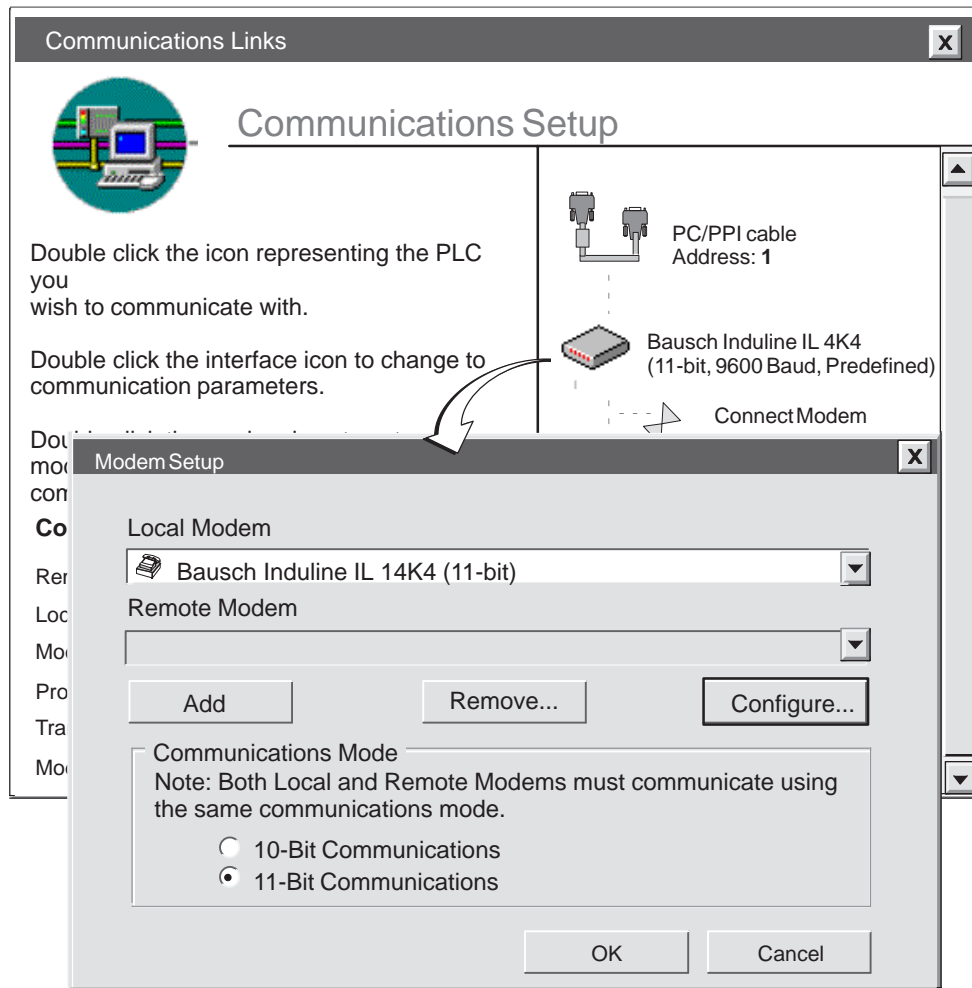

Figure 7-12 Modem Setup Dialog Box for the Local Modem
8. In the Communications Setup dialog box, double-click on the first modem icon. The Modem Setup dialog box for the local modem appears (Figure 7-12).